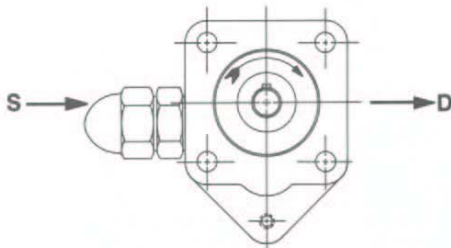

FIGURE 1
3. *Suction/Discharge* — SG Series pumps are designed for clockwise rotation as standard (viewed from shaft end). Refer to Figure 1.